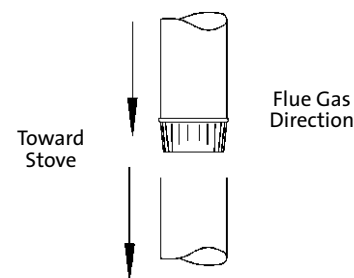

Figure 4. Chimney connector orientation.
- Each connector section must be oriented with the male (crimped) end pointing toward the stove. See **fig. 4**.